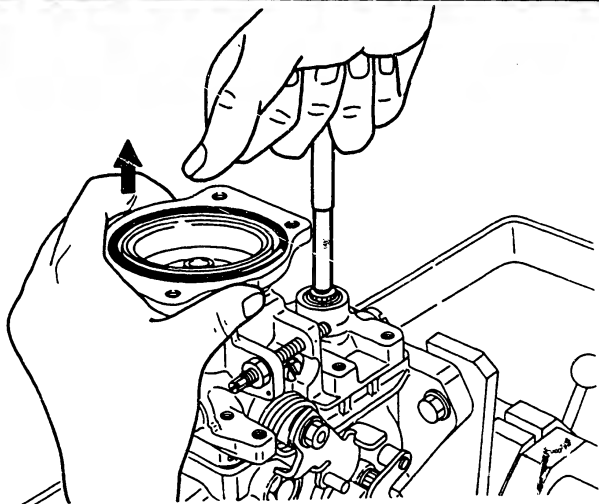

Fig. 65 Removing the governor cover
13. Remove the four socket head bolts (123) fixing the governor cover using a hexagon wrench.
14. Remove the governor cover (67/1) from the injection pump, after removing the full-load adjusting screw (88), by holding the control shaft (68) with the inserter (KDEP 1096) and lifting the governor cover. (Fig. 65)